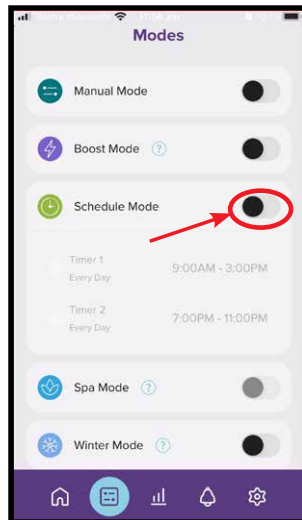

Figure 9.38
- Schedule Mode can now be toggled on/off by simply sliding the switch (ref Figure 9.38).